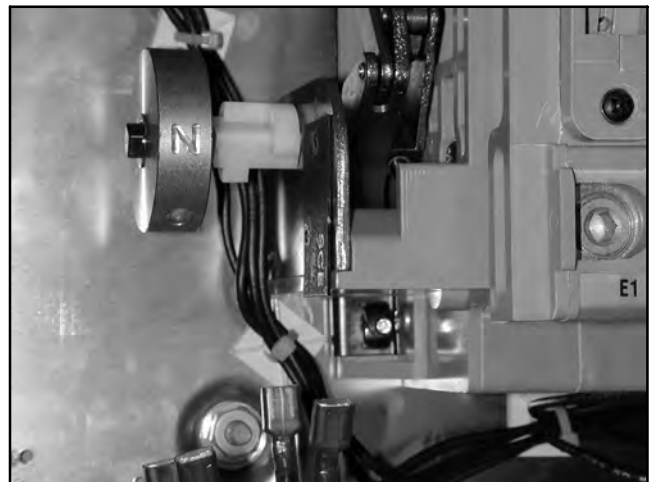

Figure 6-10 Microswitch Fast-On Connectors
6. Disconnect the fast-on connectors. See Figure 6-10.